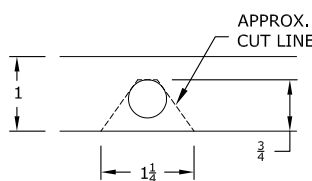

FIGURE A3
6. **Mark the 4" hole location.** Using a tape measure hooked over the rear edge of the bed (at tailgate end), measure the location for the hole as shown in figure A3. Next, locate the center of the bed by measuring the distance between the wheel wells and dividing by two. The center of the hole will be at the intersection of the center of the bed and the first distance measured.
8. **Modify bed flange.** Cut a notch in the bed flange just above the frame in the passenger side rear wheel. Locate the $\frac{7}{16}$ " hole in this flange above the axle and enlarge the hole by removing the metal below the hole so that a notch is created, See figure A3 & A4. This will allow the rear cross member to be installed.